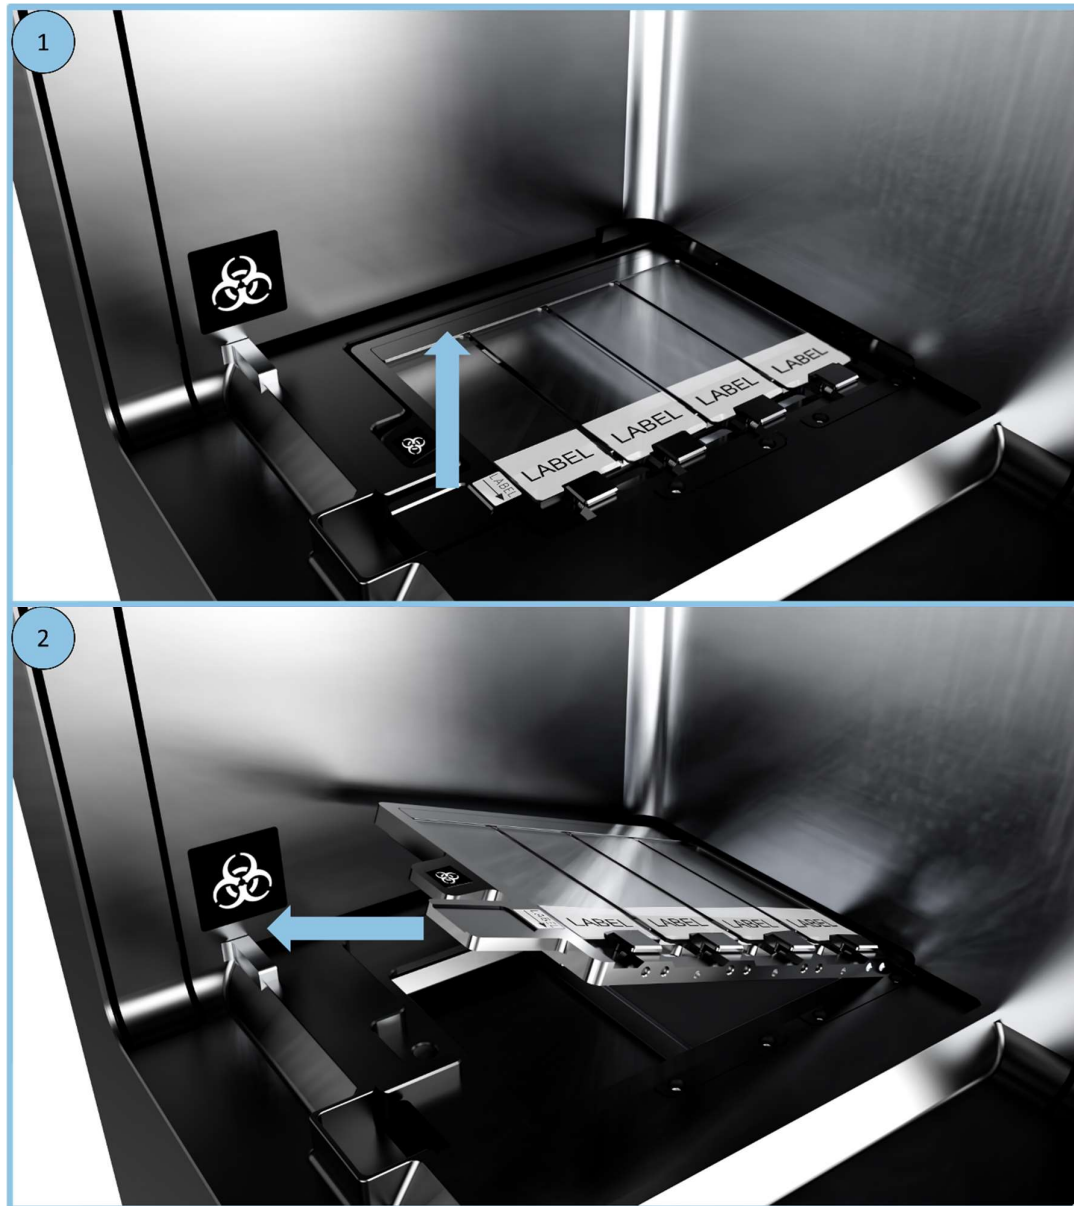

Figure 6-5 Removal the slide holder from the Loading Compartment.
2. Gently lift the slide holder using the tab and then pull it outwards as indicated in *Figure 6-5*.